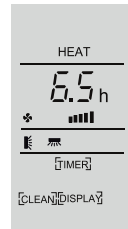
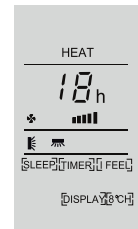

Fig. 19
Fig. 20
To optimize the function of the air conditioner, adjust the speed (2) and the direction of the air flow (3) by pressing the buttons indicated (Fig.20).
A sample for the Timer-on as Figure 19, Timer-off as Figure 20.
To optimize the function of the air conditioner, adjust the temperature (1), the speed (2) and the direction of the air flow (3), by pressing the buttons indicated (Fig.20).